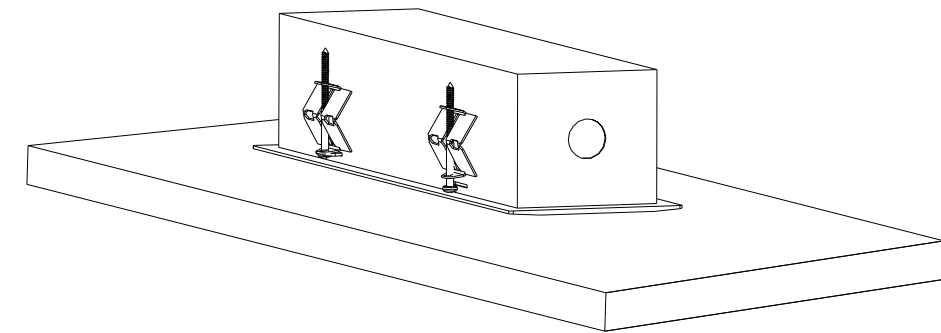

Fig. 7
6. Once the housing is inside the ceiling, start tightening the long screws and the brackets start to bow out as shown in Figure 7.